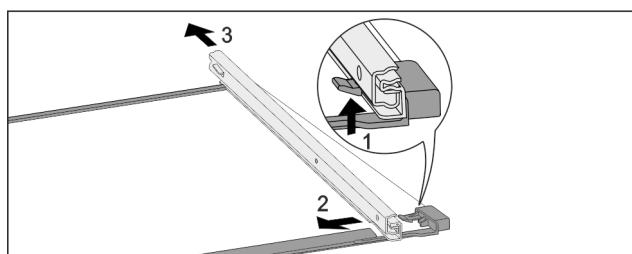

Fig. 177 Glass shelf with rails
- ▶ Push up front click-in hooks. Fig. 177 (1)
- ▶ Move the pull-out rails to the side Fig. 177 (2) and to the rear Fig. 177 (3).